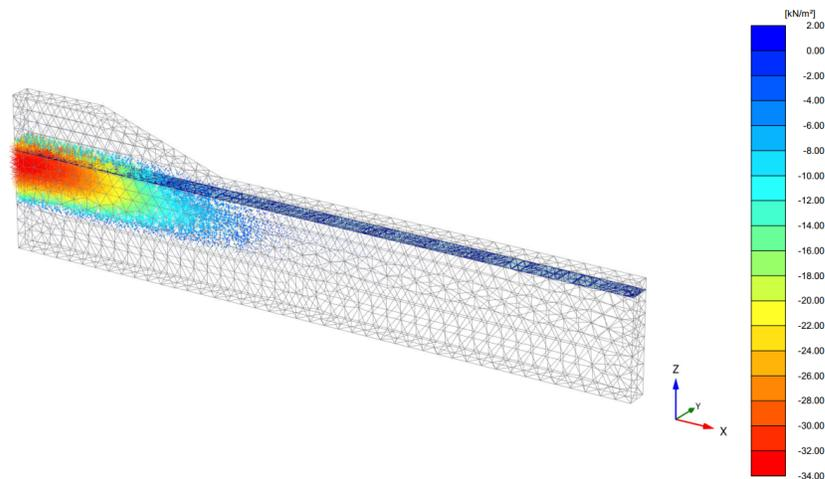

Figure 96: Excess pore pressures after undrained construction of embankment (Phase 3)
2.  Click the **Center principal directions**. The principal directions of excess pressures are displayed at the center of each soil element. For a coloured visualization, in the general toolbar select **Coloured principal directions**. The results are displayed in Figure 96 (on page 122). It is clear that the highest excess pore pressure occurs under the embankment centre.